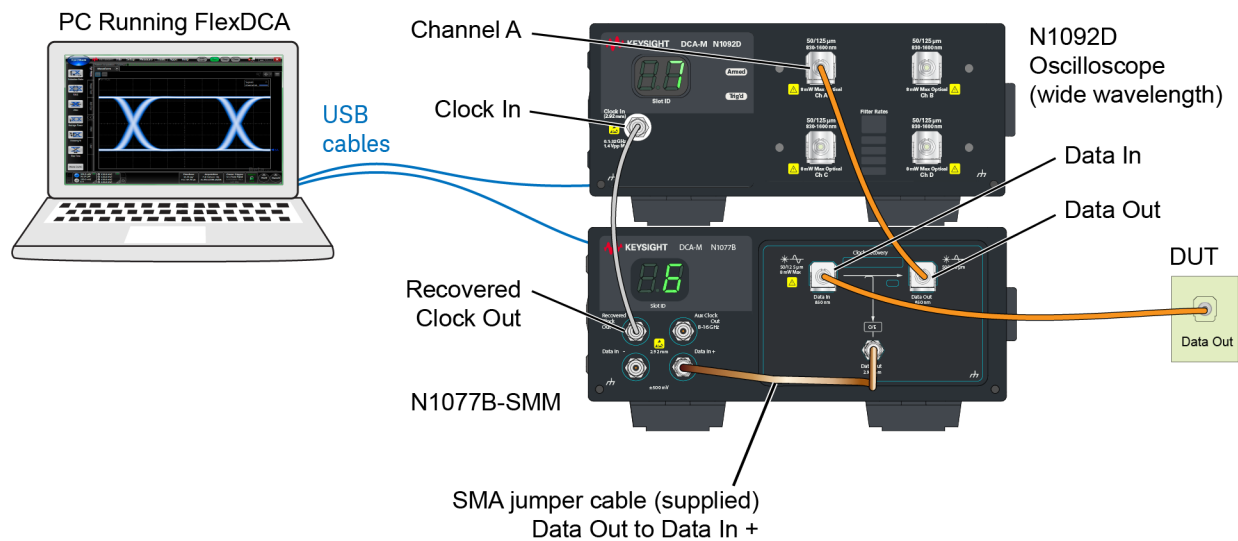

Figure 46. Typical Connection Setup
3. Connect the N1077B as shown in *Figure 46 on page 93*. If connecting to an N1000A (or 86100D), be sure to connect the USB cable to the DCA-X's rear-panel USB port. Notice that the N1077B has multimode optical connectors: